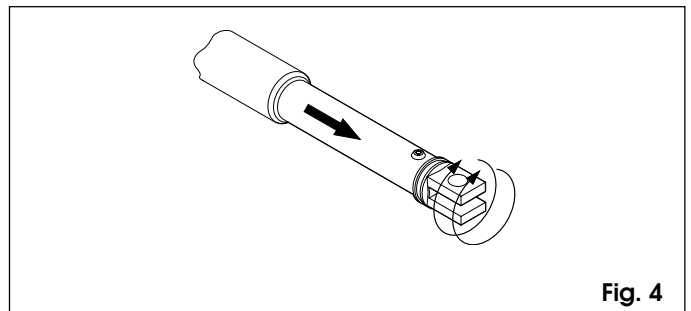

Fig. 4
- 4) Extend the rod to the end of its stroke (fig. 4).
- 6) Rotate the operator rod two full turns clockwise (fig. 4).